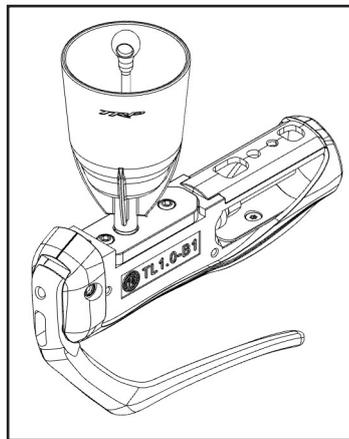

Fig 6
- Install a TRP/Tektro bleed funnel at the brake lever and remove the stopper. (Fig 6)